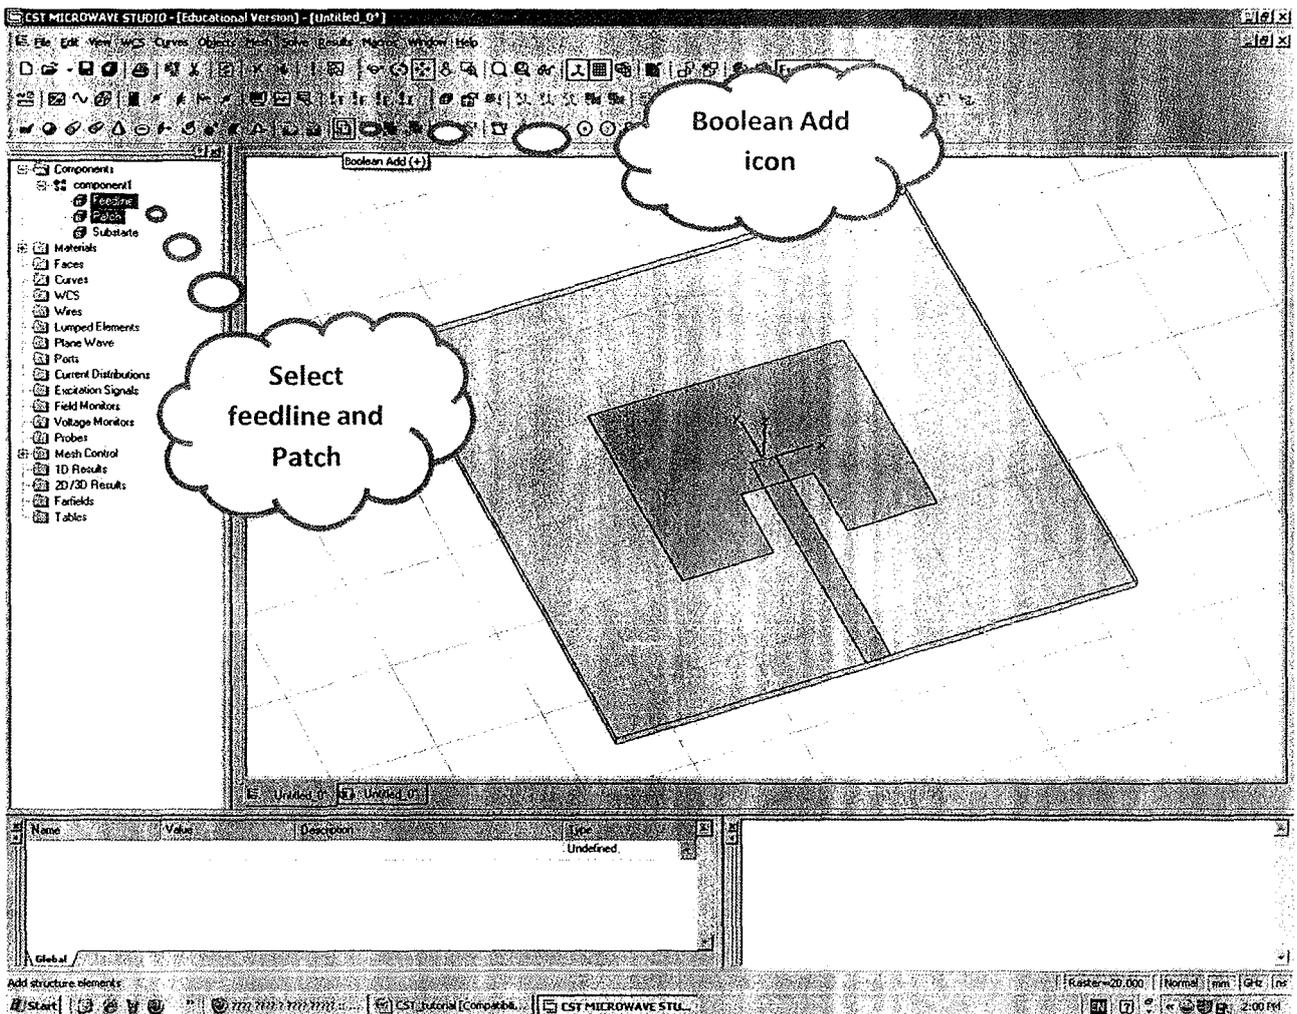

Fig.16 Merging the feed line with the patch
- b. From the toolbar click on “Boolean add (+)”, see Fig.16